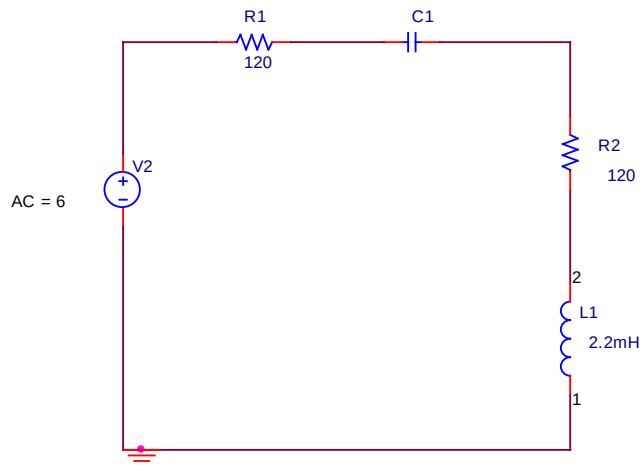

Figure 4 Circuit for Part 3 of Prelab
- Figure 4 may be considered as a circuit having a fixed load connected between terminals a and b, but variable source impedance. The load consists of resistor R2 and inductor L1 while the "source impedance" is changed by varying the capacitor values. Determine the value of the capacitor for which maximum power is transferred to the load when the source voltage is 6 V (peak) and has a frequency of 15 kHz.
- 2.1** Build the circuit of Figure 4. Operate the circuit at a frequency of 15 kHz. Use each of the following values for C: 0.025, 0.047, 0.068, 0.10 and 0.22 microfarads (or whatever is available in the lab). **Make sure that the input voltage remains constant throughout the experiment – adjust it if it does not** (why might the source voltage change?). Make $R_2 = 100\ \Omega$ instead of $120\ \Omega$ (Why? *Hint*: Is the inductor *ideal*?). Using a DMM, measure the current in the circuit. Using the current measurements, plot the power consumed by the load resistor R_2 as a function of capacitance. Comment on the results.